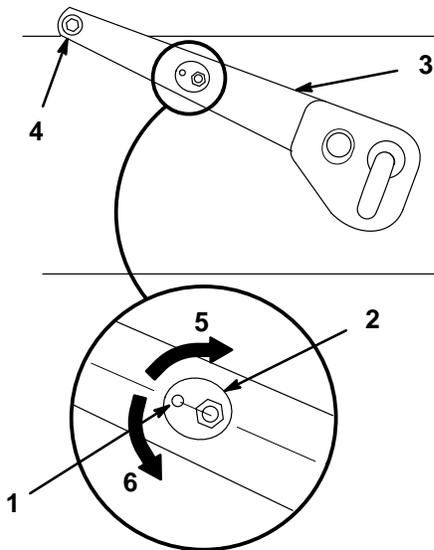

Figure 17
1. Check to see that both adjustment cams are oriented with the indicator toward the pivot point at the rear of the tractor (Fig. 17).